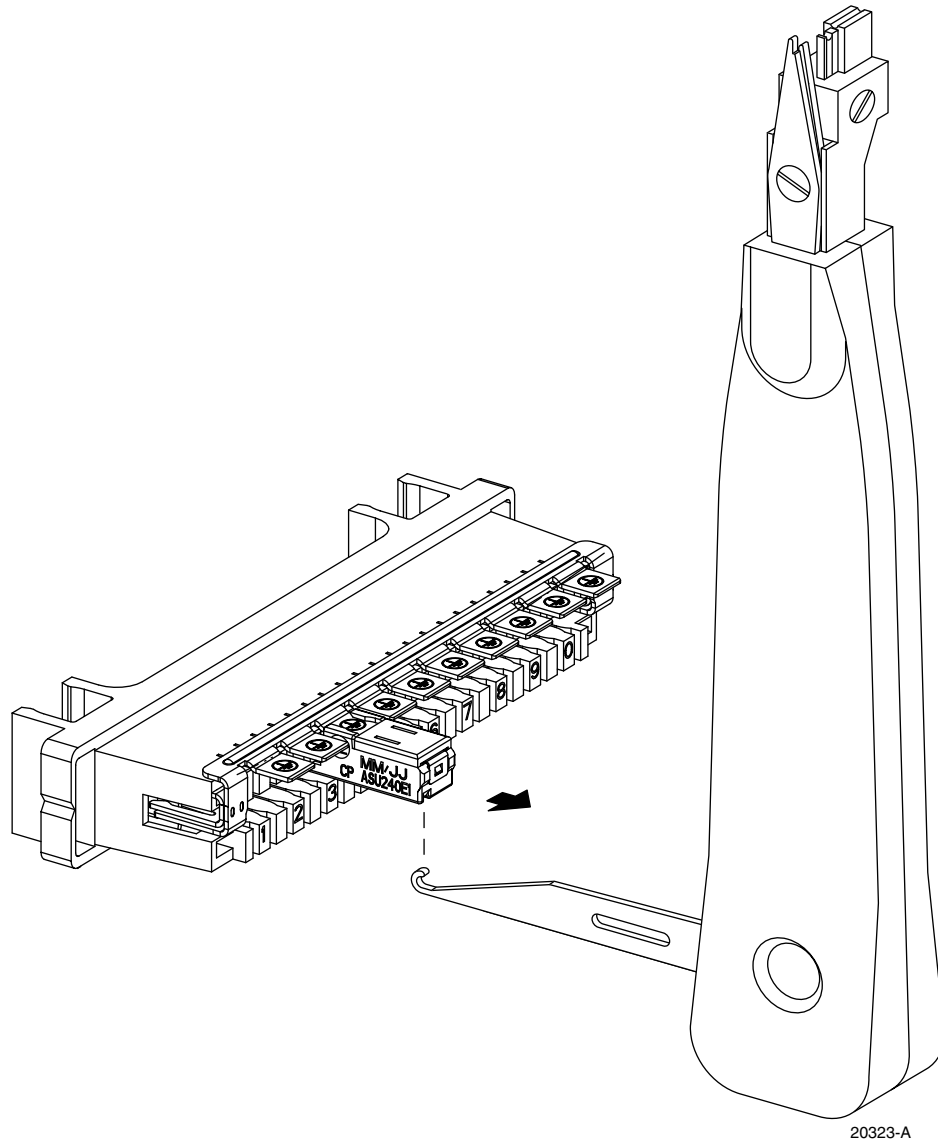

Figure 4. ComProtect Single-Pair Protector Removal
3. Remove a ComProtect Single-Pair Protector by simply using the hook on the KRONE Insertion Tool and pulling the protector straight out of the KRONE termination block (Figure 4).